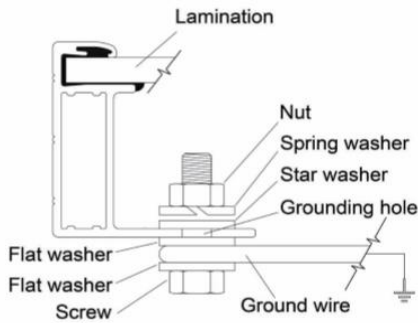

figure 1
- Use M6 bolt and washers to bond the ground wire and aluminum frame through the grounding holes (as shown figure 1). The tightening torque is 3-7N.m. All nuts and washers should be made of stainless steel.